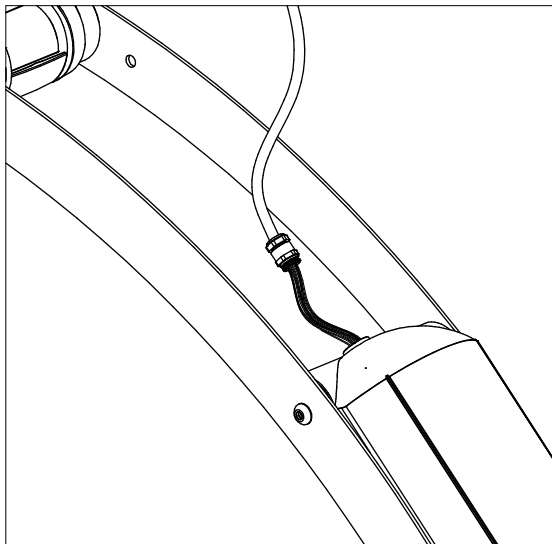
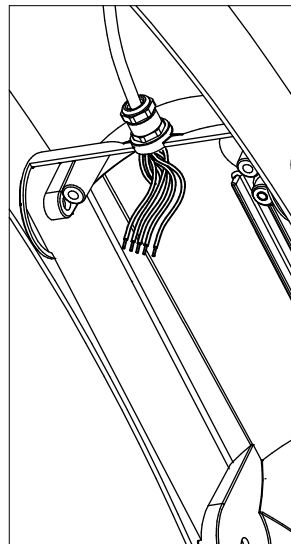

FIG. 5-4
FIG. 5-4B
4. INSERT THE OTHER END OF THE CONDUIT ASSY-5GA STEEL BRAIDED STRANDED WIRE BUNDLE INTO THE BALLAST COMPARTMENT OPENING. SHOULD USE THE 17in LONG STRIPPED CORD SIDE (FIG. 5-4/FIG. 5-4B)